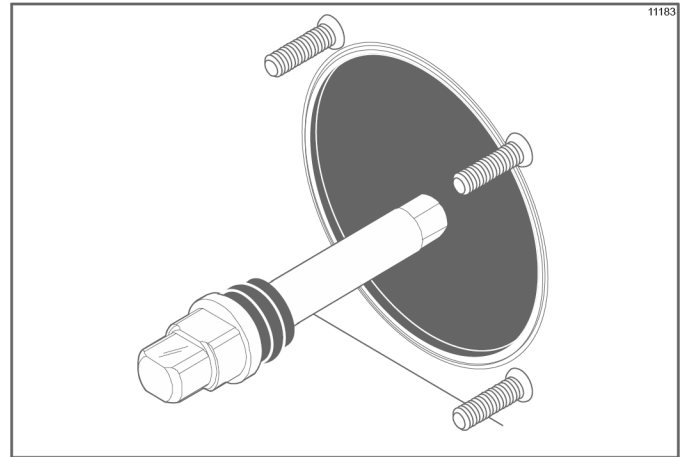

Figure 6-6
5. Insert the beater driveshaft through the rear shell bearing in the freezing cylinder and engage the hex end firmly in the drive coupling. (See Figure 6-6.)